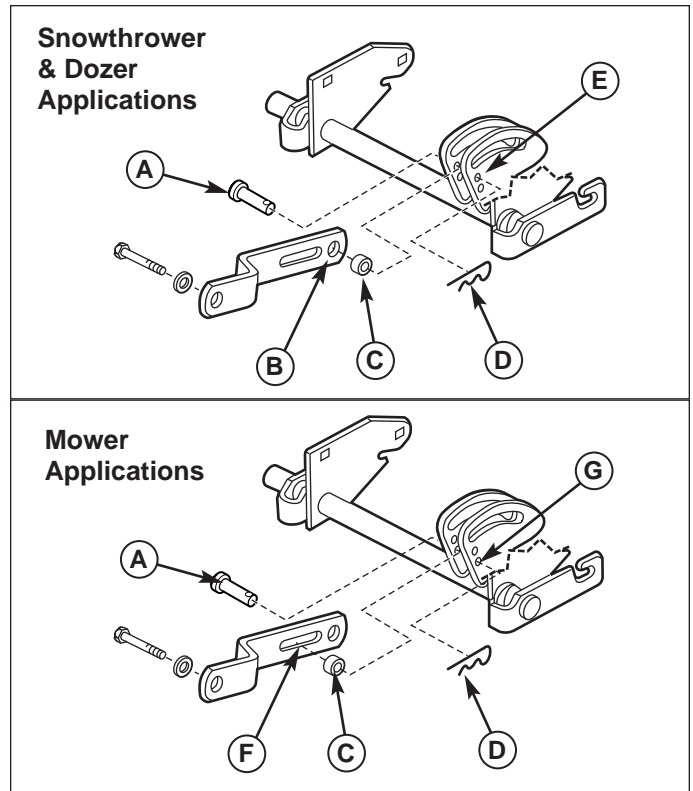

Figure 6. Lift Link - Manual Lift Models
1. Install the lift link as shown in the upper frame of Figure 6.